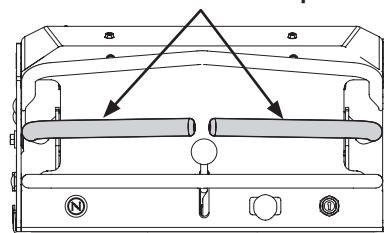

Fig. 10
1. Ensure the RH and LH drive control levers are in the neutral position and the parking brake is disengaged (Fig. 10).